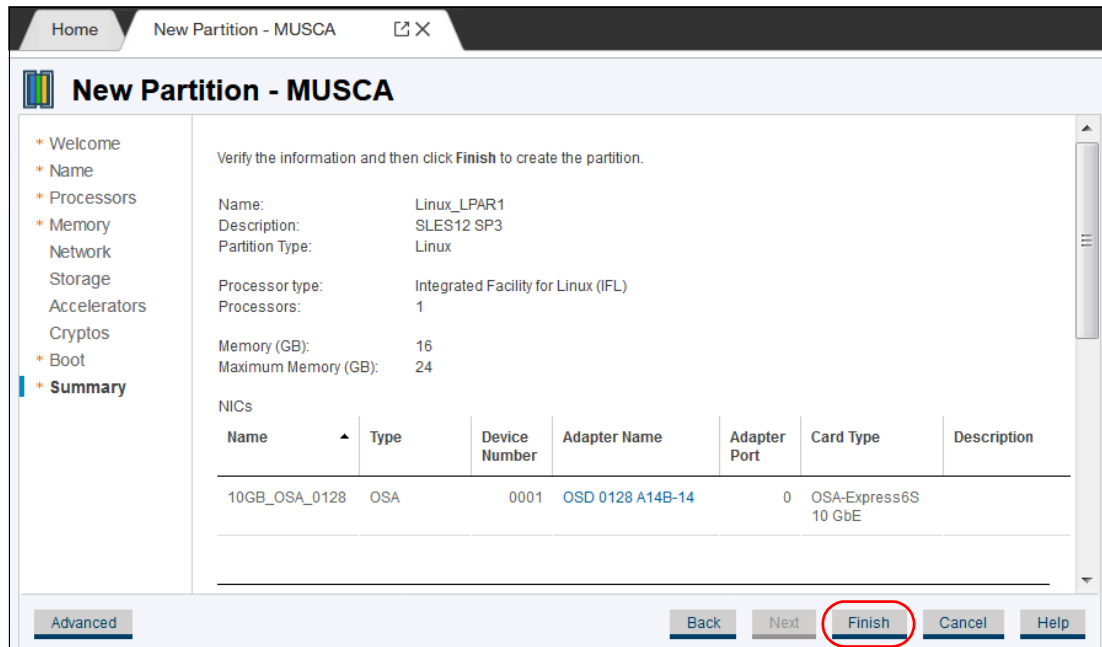

Figure 16-40 Finalizing partition definition
10. After selecting the partition boot options, we finalize creating the partition by clicking **Finish**, as shown in see Figure 16-40.
8. After selecting the partition boot options, finalize the partition creation by clicking **Finish** (see Figure 16-40 on page 413).